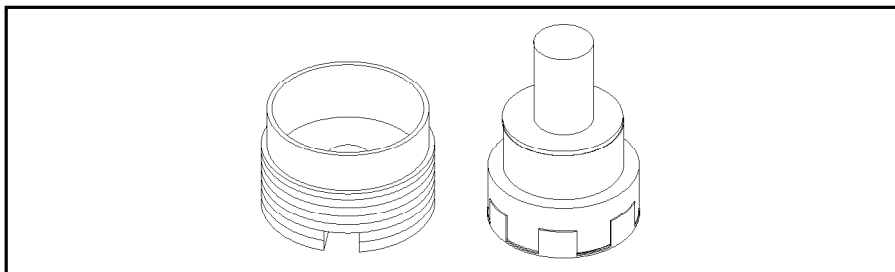
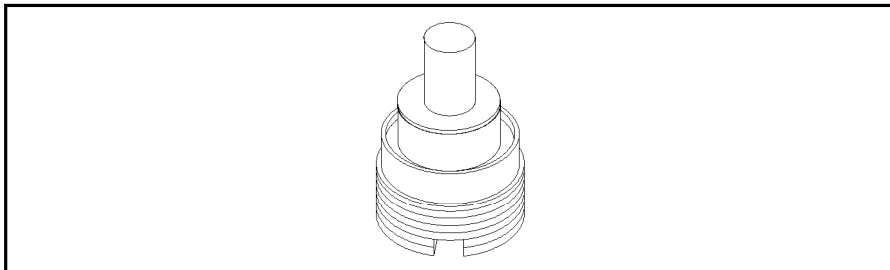

Figure 4-18. Window and Cell Screw
Figure 4-19. Placing Window into Cell Screw
5. Lift the window and place it gently into the cell screw, see Figure 4-18 and Figure 4-19. Press down gently until the window sits tight.